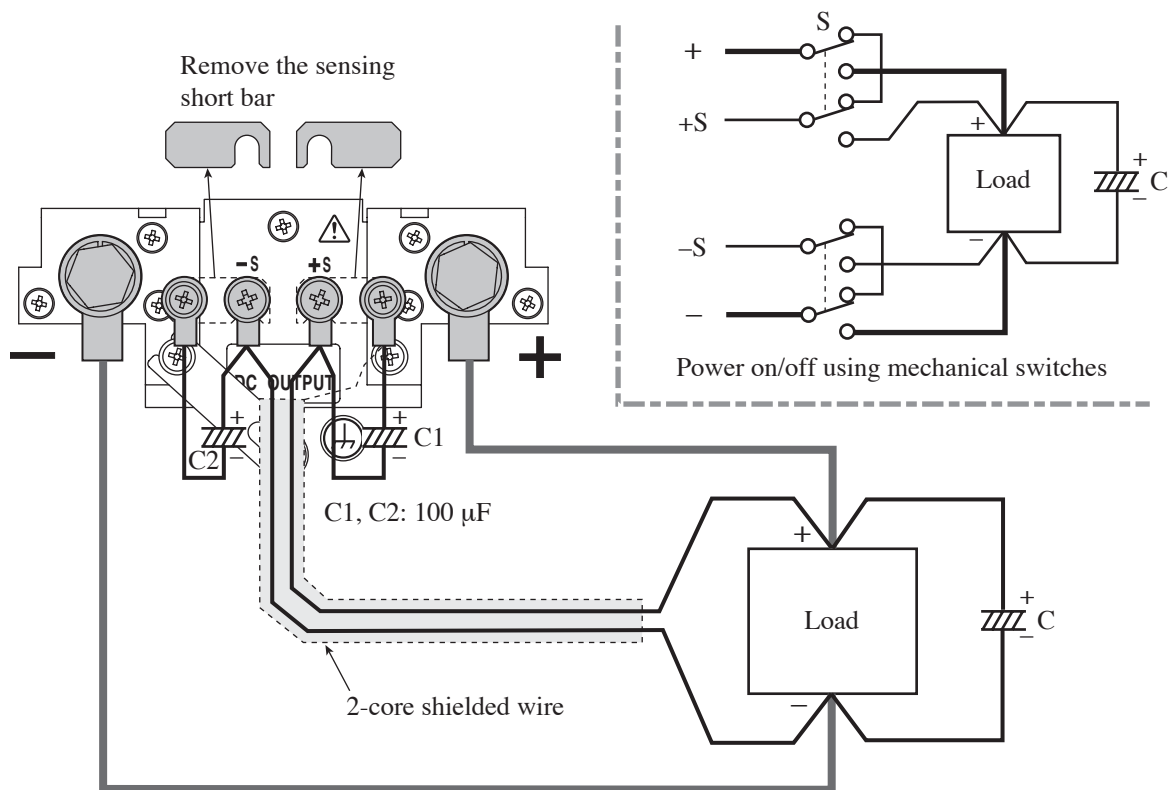

Fig. 4-1 Remote sensing connection
3. As shown in Fig. 4-1, remove the short bar for sensing.
4. As shown in Fig. 4-1, wire the sensing wire to the sensing terminals (+S terminal and -S terminal) and the load end.
When using a mechanical switch	To turn on/off the power supplied to a load using a mechanical switch, provide additional switches between the sensing wires as shown in Fig. 4-1 and turn on/off the load cable and remote sensing wires simultaneously.